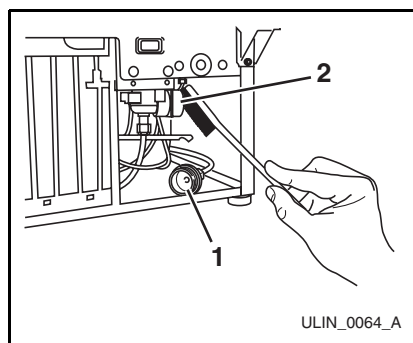

**Figure 9**
3. With a standard blade screwdriver or 1/4" nut driver, remove the grille screw (**Figure 9, 1**).
10. Insert the grille screw (**Figure 9, 1**) and tighten. Do not over-tighten.